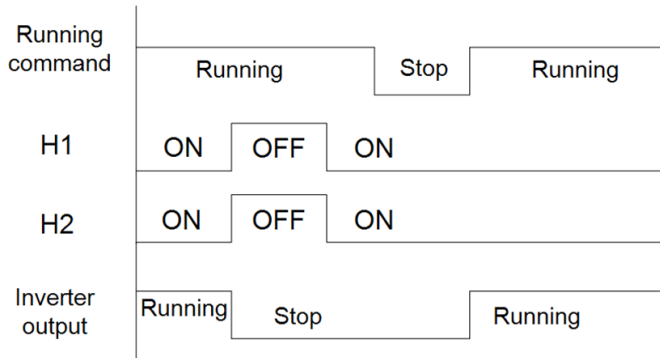

Figure 3-18
2. When the hundreds of P11.16 is set to 2, the STO alarm will not be locked. As shown in below Figure 3-18, alarm non-lock means when STO appears, the STO alarm will disappear automatically after state restoration, which requires no reset action. After reset of external running command, the inverter will execute run command again.